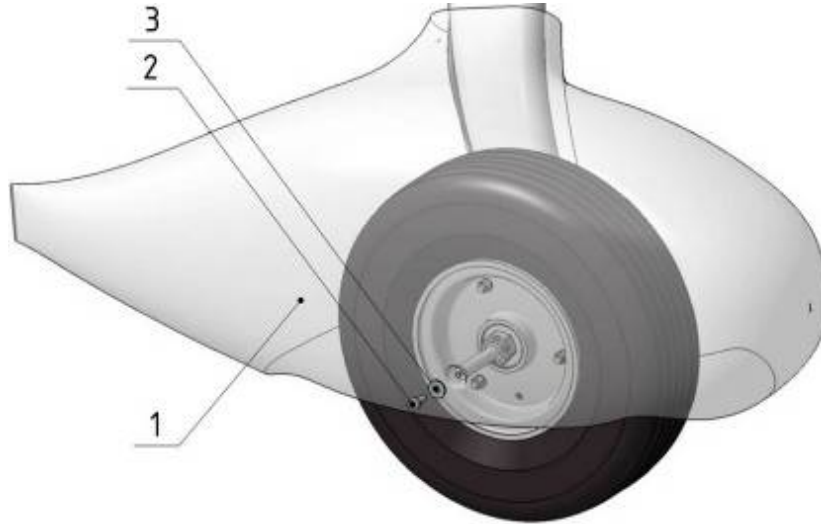
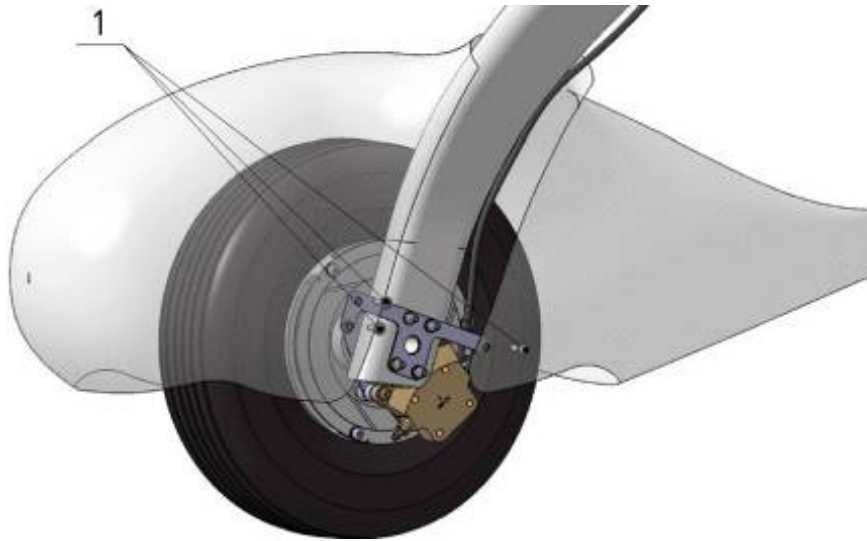

Fig. 32-10-5
Fig. 32-10-6
B. Fairing, Main Wheel Uninstalling. Fig. 32-10-5, Fig. 32-10-6.
1	The fairing is installed in reversed direction order. When installing bolt 2, Fig. 32-10-5, apply thread locker middle strength.